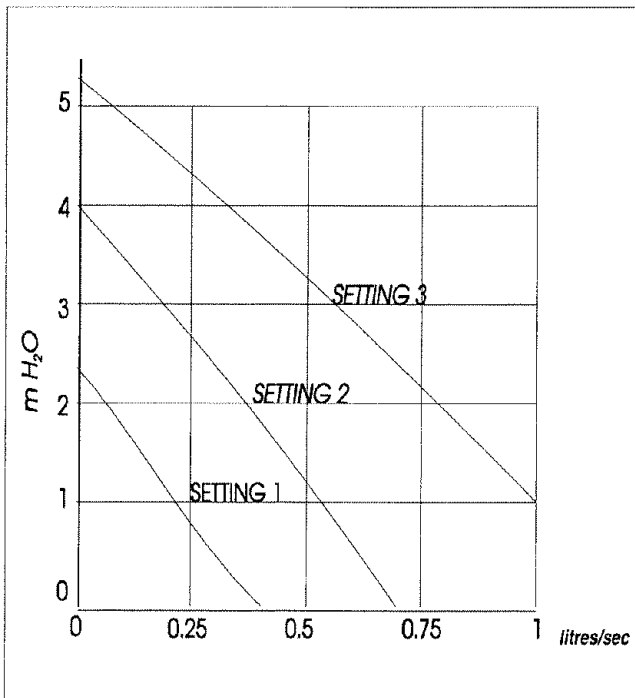

Figure 2.6 Performance Characteristics of Grundfoss UPS 15-50 Pump
- The performance characteristics of the system pumps is given in Figures 2.6 and 2.6a.